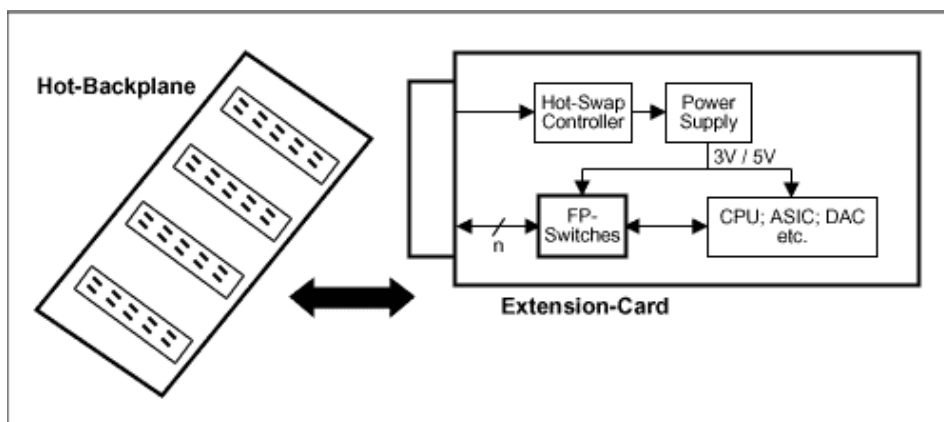

Figure 7. Hot-swapping backplane signals.
Low-voltage, fault-protected switches between sensitive parts and the backplane connection (Figure 7) give the required over-voltage protection. The switches maintain their COM outputs in a high-impedance state until the card's supply voltage comes up and closes the switch connection to the backplane. The switch's protected (NO) inputs face the backplane, giving ±12V protection while power is off, and also protecting the card against over-voltage from the backplane when supply voltage is present.